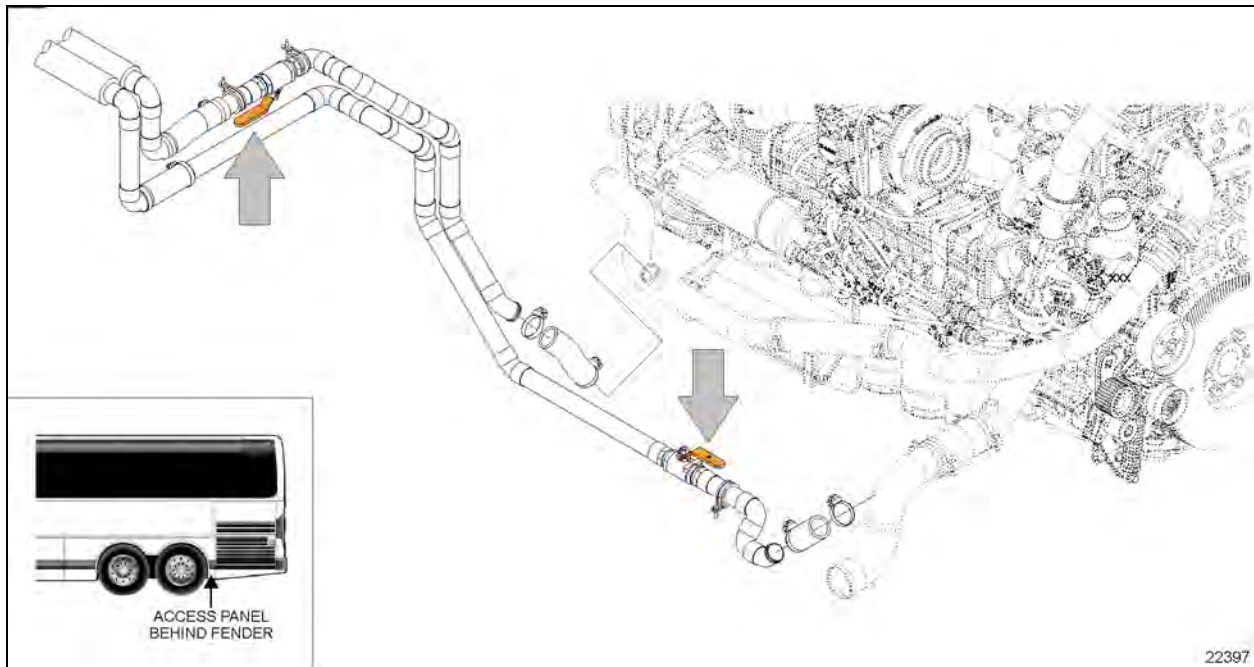
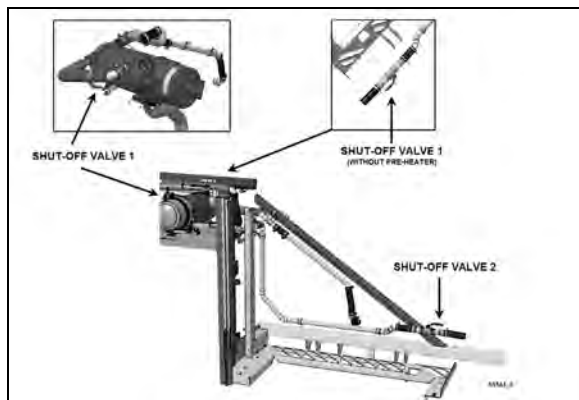

FIGURE 77 X3 SERIES HEATER LINE SHUT-OFF VALVES- (ALLISON TRANS. PIPING ARRANGEMENT SHOWN)
FIGURE 78: H3 SERIES HEATER LINE SHUTOFF VALVES
3. Close the hot water lines shutoff valves located next the engine on street side (see Figure 77 or Figure 78).
2. Close both heater line shutoff valves (Figure 77 or Figure 78). One is located in the engine compartment, lower road side, near the radiator while the other one is located behind the L.H. hinged rear fender near the preheater.